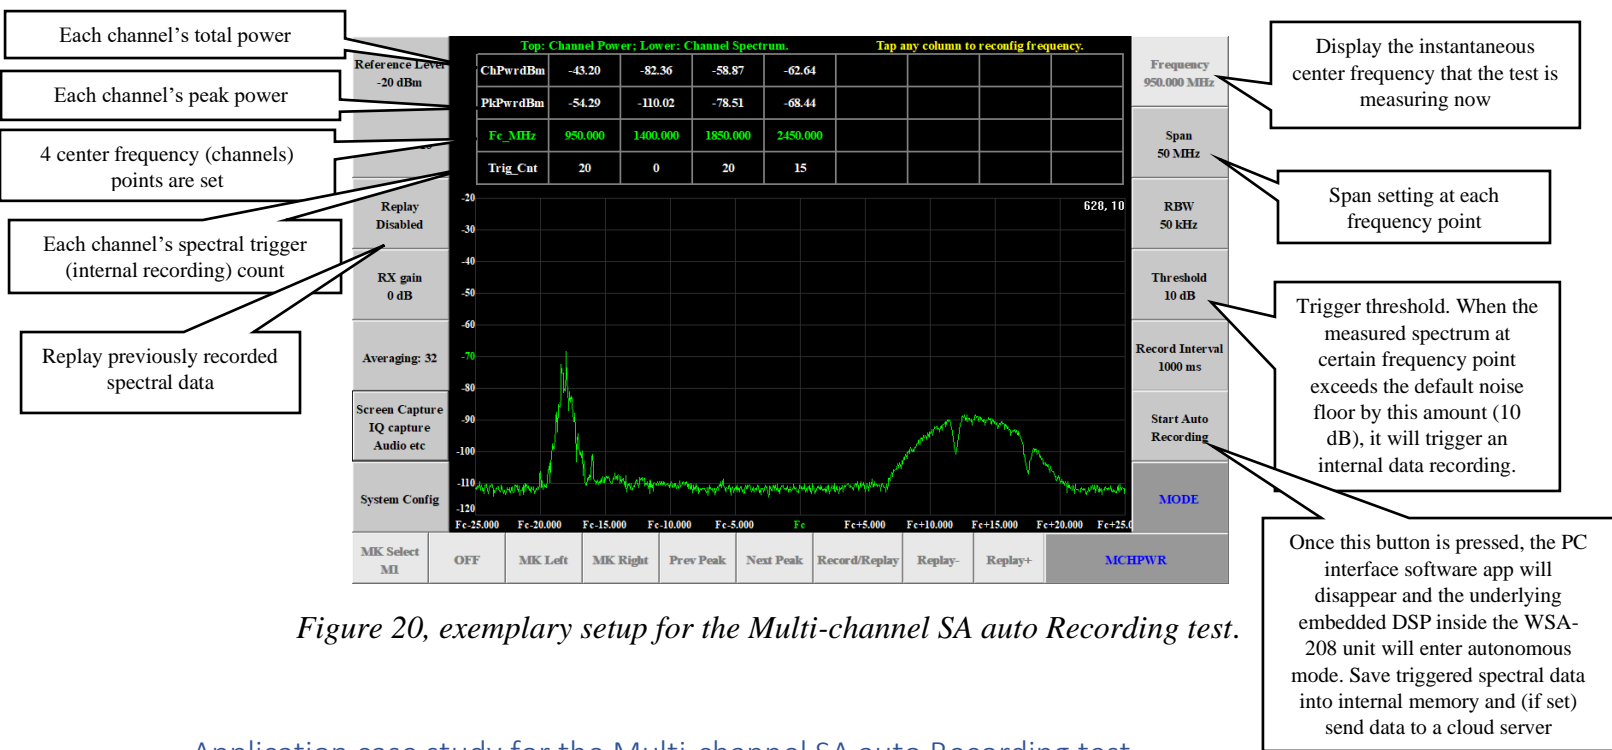

Figure 20, exemplary setup for the Multi-channel SA auto Recording test.
5. The purpose of the above steps is to autonomously find anomalous signal intrusions or interference signals within certain frequency bands of interest while the instrument is being driven or flown or even installed over certain areas. This is the purpose of this Multi-channel SA auto Recording test. An exemplary test setup is shown in Figure 20.